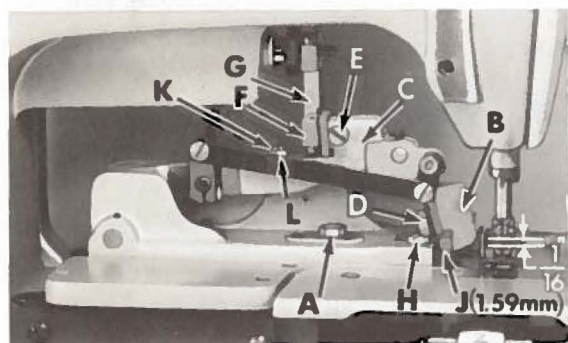

Fig. 16
Loosen screw (A, Fig. 16) which secures the base of the pinker attachment to the machine and move pinker as required. Moving it to the left decreases the width of pink and moving to the right increases the width of the pink. For extreme variations it may be necessary to remove the pinker from the machine and select from a combination of throat plates, feed dogs, knives and spacer which
Set the upper pinking knife (B, Fig. 16) so its point is 1/16 inch (1.59 mm) below top edge of lower knife when pinker arm (C) is at its lowest point of travel. For this adjustment, make a pencil line on upper knife, 1/16 inch (1.59 mm) from lower front point (Fig. 16), loosen screw (D) and turn handwheel in operating direction until the pinker arm is at its lowest point of travel. Now, set the 1/16 inch (1.59 mm) pencil line on upper knife so it coincides with top edge of lower knife. Tighten screw (D).
Generally the lower knife does not require sharpening every time the upper knife is sharpened. When resharpening is necessary, loosen screw (E, Fig. 16) and back out ball stud (F) to disconnect the ball joint connection rod assembly (G). Remove screw (A, Fig. 16) allowing removal of the pinker attachment. Remove screws (H) which hold the lower knife (J). The knife may be sharpened on the side of a wheel. Touch it very lightly so only a slight amount of metal is removed. DO NOT grind the inside of the "V". Grind top surface only. When replacing the lower knife be sure that the upper knife is positioned so that its holding screw is at the top of its slot. Do not tighten the lower knife holding screws (J) securely. Bring the cutting edges into contact so the point of the upper knife is just below the top surface of the lower knife. Now gently press the lower knife moving it to right or left as required to obtain equal spacing between the cutting edges of the upper knife and the inside edges of the opening of the lower knife. Now tighten the lower knife holding screws (J) securely. Replace pinker on the machine after assuring that all foreign matter has been removed from the pinker base and its support. Recheck "Setting The Upper Knife".
The pressure applied on the cutting edges is controlled by the Allen Socket screw (K, Fig. 16) which is locked in position by nut (L). If the knives are not cutting clean, a slight increase of pressure will generally remedy the fault. It is to be noted that to insure long knife life, only the minimum amount of pressure necessary to obtain a clean cut should be used.